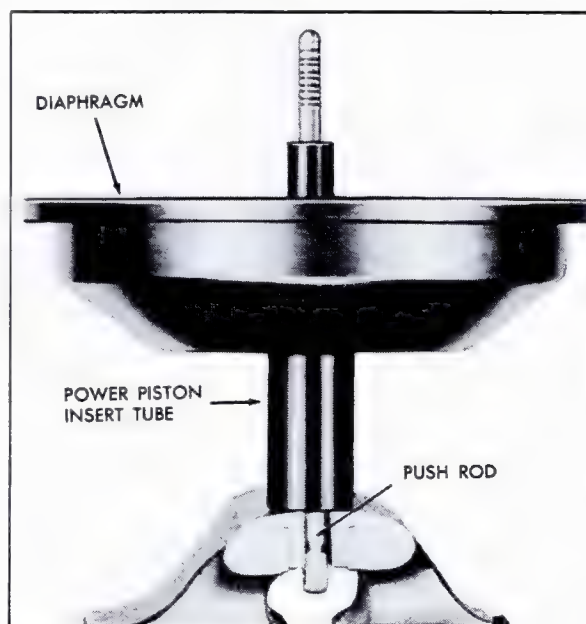

Fig. 5-22 Mounting Power Piston in Vise
11. Remove master cylinder from vise, and clamp control valve and rod assembly in vise with power piston insert tube resting on top of vise jaws, Fig. 5-22.
10. Clamp control valve and rod assembly in vise with power piston insert tube resting on vise jaws, Fig. 5-22.